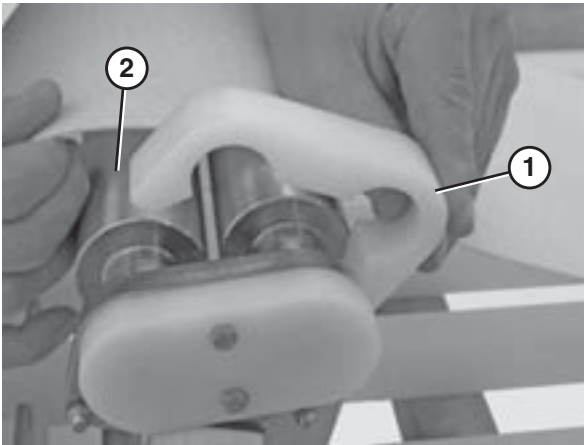

**Figure 74**
6. Remove the nose bar return spindle (Figure 74, item 1).